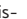

Fig. 161 Navigation main menu
(VIEW) To modify or activate or deactivate the split screen and show POI >>> Fig. 161 (A) >>> page 201.